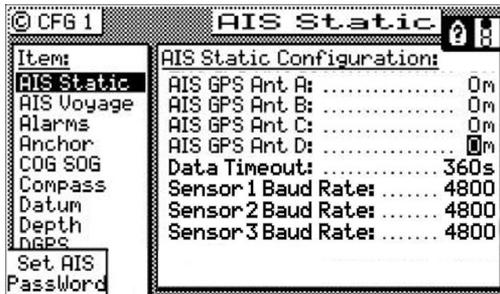

Fig 1.09 AIS Static Configuration Screen (Nauticast Sensor port Baud Rate Setup)
9. Press *E* key to exit. See Fig 1.09 below.
6. Press the *E* key to exit. Please refer to Fig 1.09 to see this particular screen option.